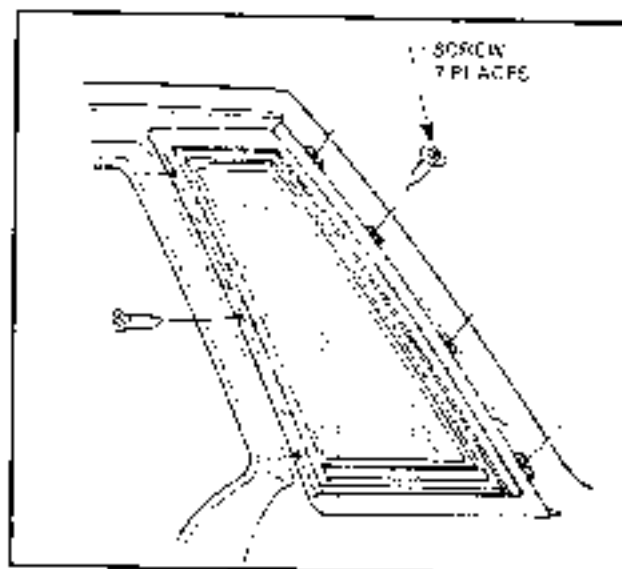

Figure 1A-25
10. Install screw attached quarter reveal moulding lower to lower section of garnish moulding (refer Section AN-AN, Fig. 1A-26)
11. Locate hooked edge of roof drip gutter rear moulding over rearward outer edge of garnish moulding, then with the hand, lightly tap opposite side of moulding over garnish moulding (refer Section AM-AM, Fig. 1A-26)